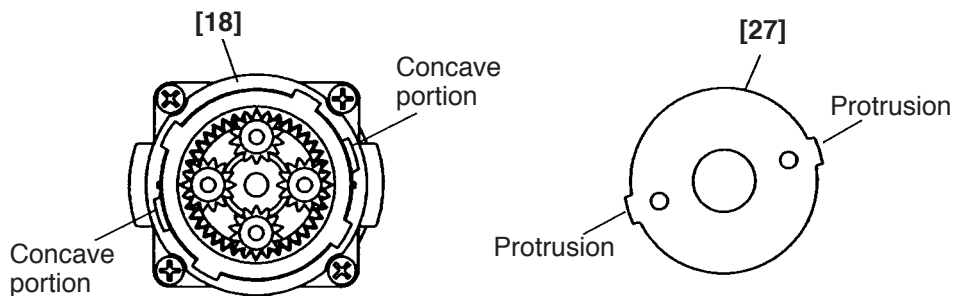

Fig. 7
- ④ Fit the protrusion of Plate (A) [27] in the concave portion of the Rear Case [18] and turn it clockwise viewing from the armature until it contacts the Rear Case [18] (see Fig. 7).